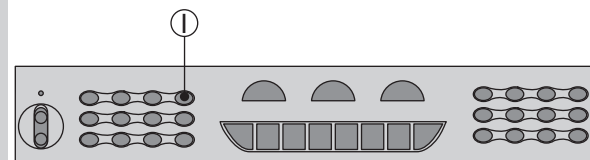
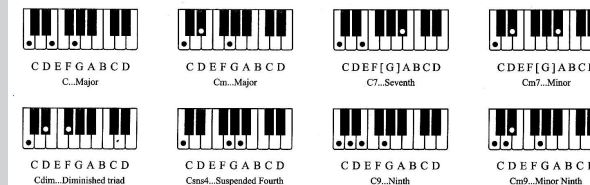

fig. 23
fig. 25
2. When the rhythm starts, press Fingered Chord (I) button and you can carry accompanying the fingered chord according to the different fingering in the chord-key part. The fingering is shown as Fig. 25. **See fig. 23 and 25**
2. Locomotion chord is different from the finger chord, but the changing result is the same. **See fig. 25**